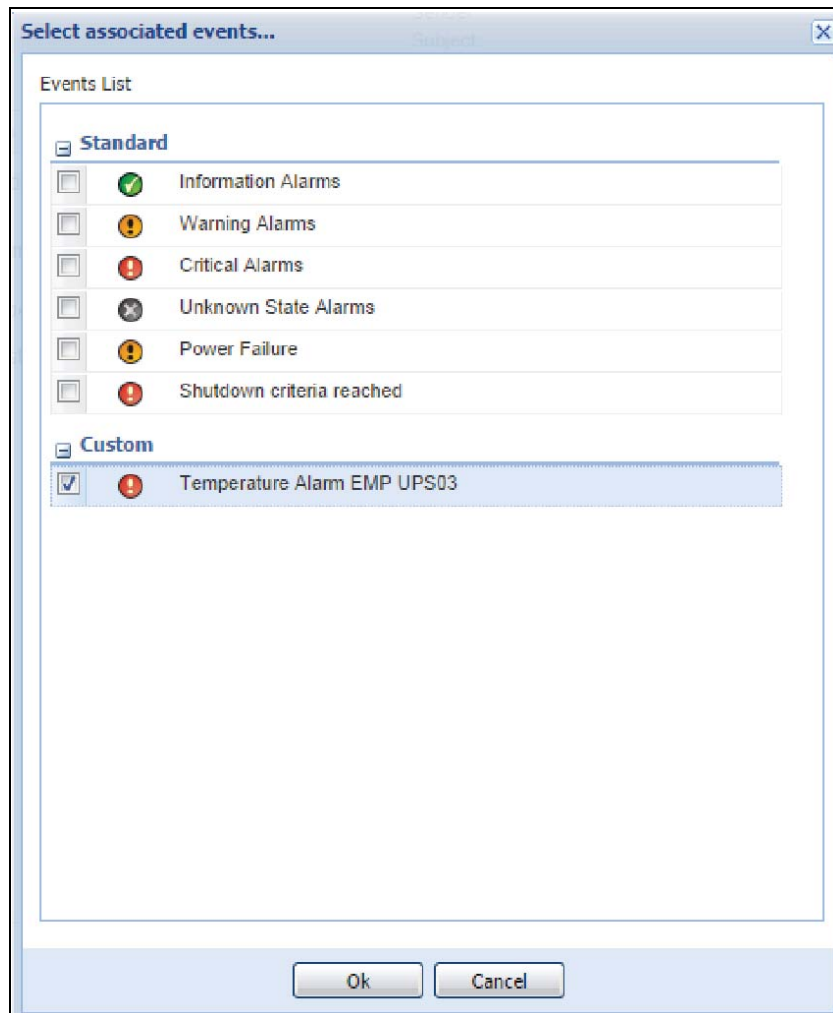

Figure 265. Select Associated Events
10. Select the event you configured previously (see Figure 265).